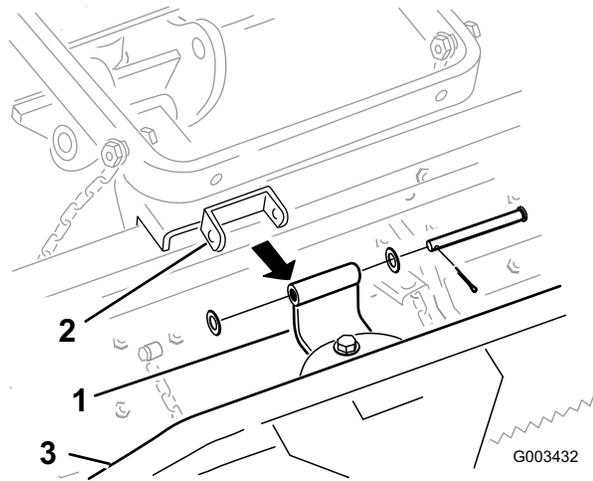

Figure 9
B. Remove the cotter pin, washers, and clevis pin securing the curved pivot bracket to the tooth rake (Figure 9).
C. Remove the curved pivot bracket and fasteners from the spring rake (Figure 9).